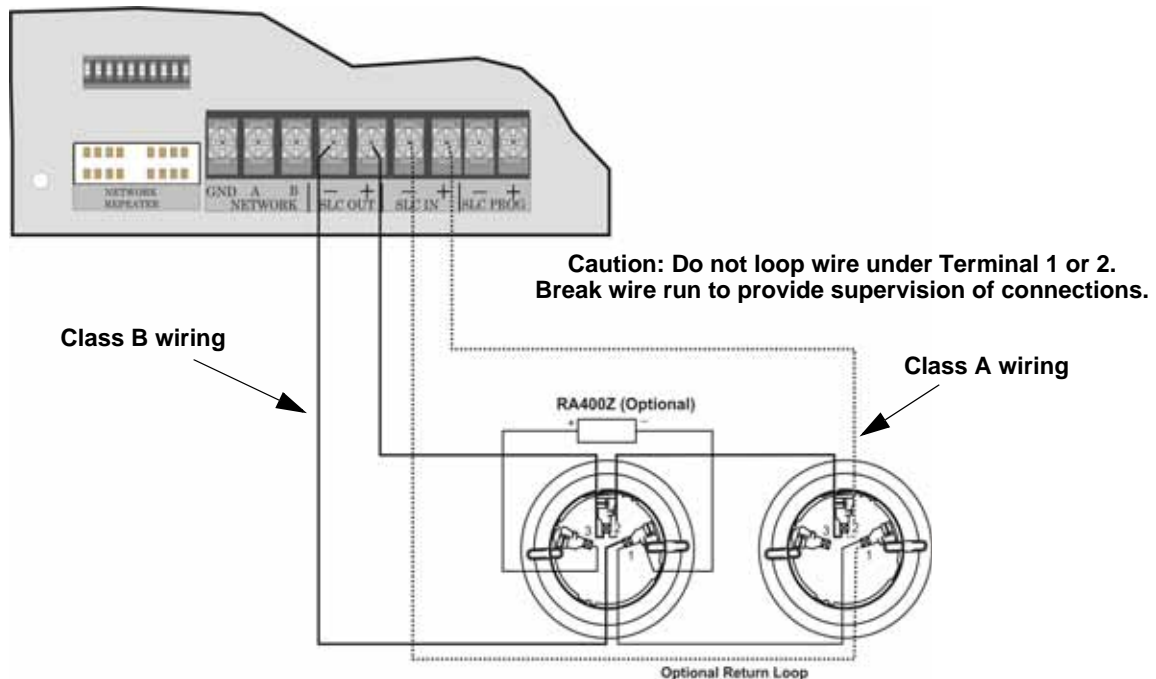

Figure 7-4 Heat and Smoke Detector Connection to the Panel.
1. Wire device bases as shown in Figure 7-4